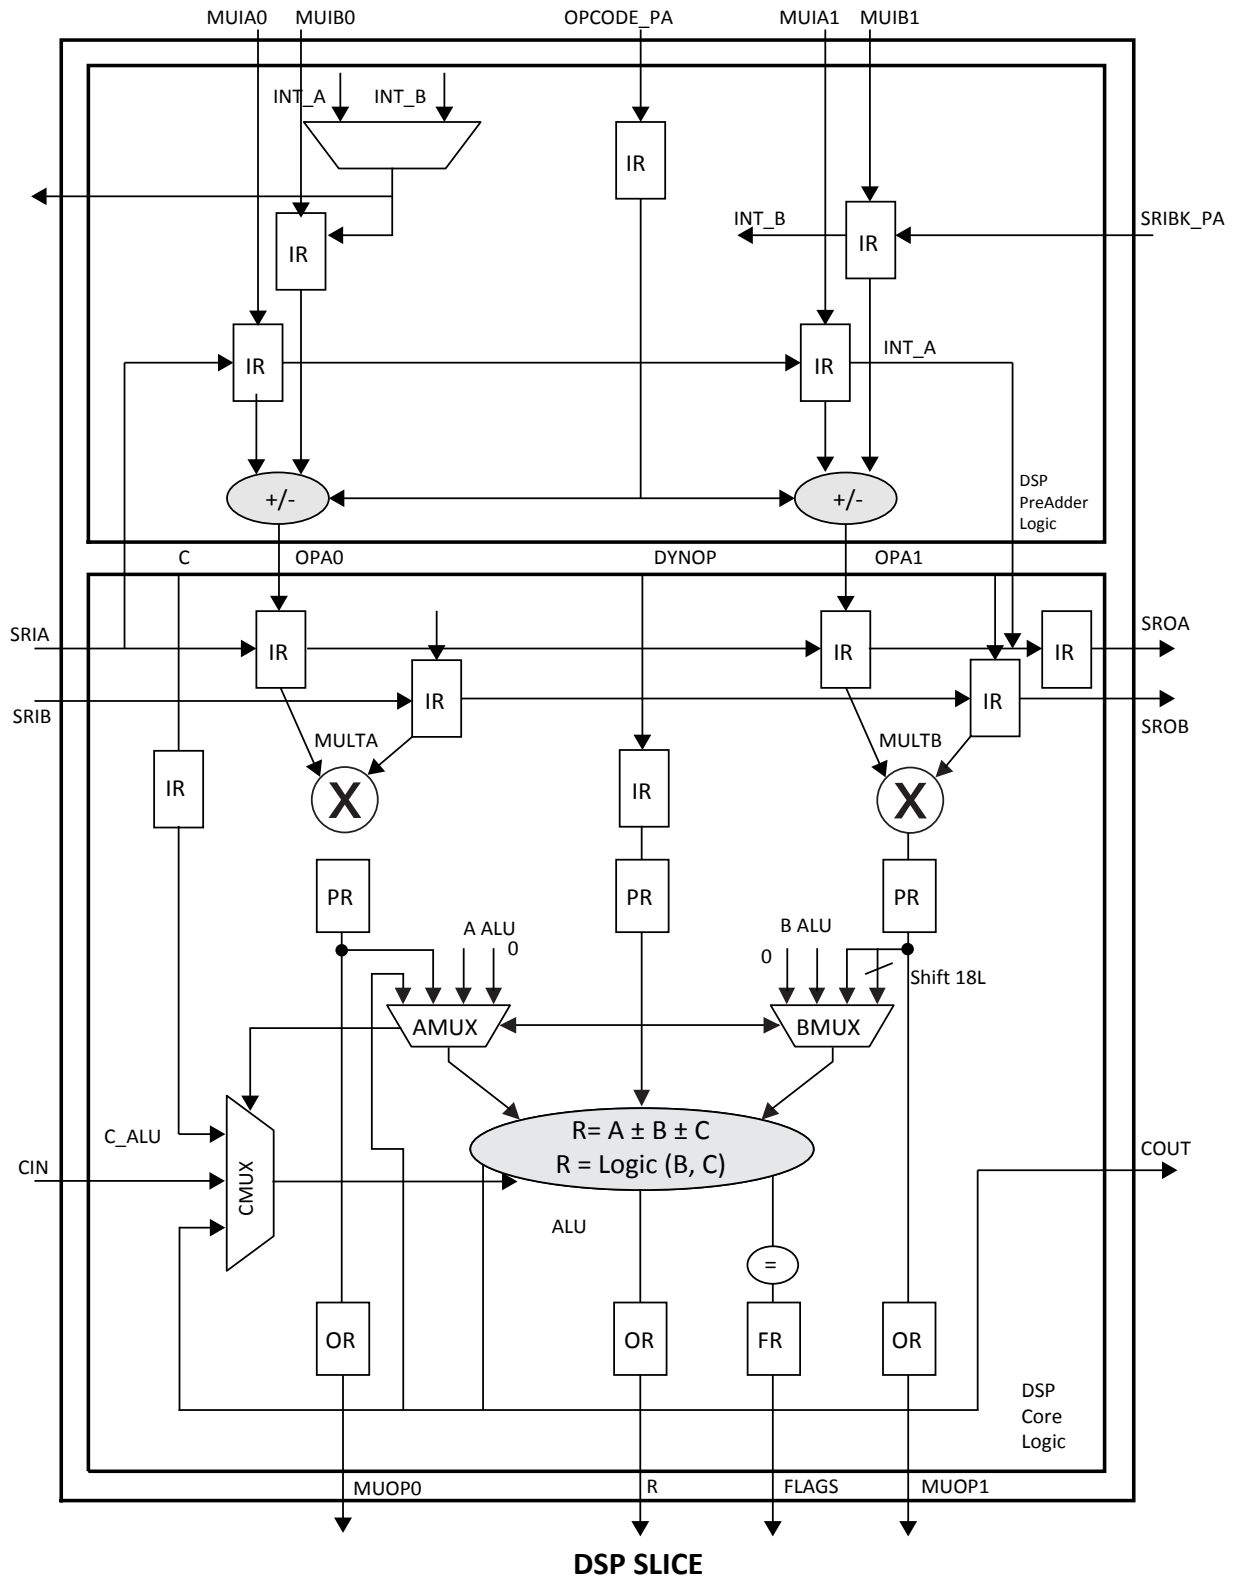

Figure 2.15. Detailed sysDSP Slice Diagram
- For most cases, as shown in Figure 2.14, the ECP5/ECP5-5G sysDSP slice is backwards-compatible with the LatticeECP2™ and LatticeECP3™ sysDSP block, such that, legacy applications can be targeted to the ECP5/ ECP5-5G sysDSP slice. Figure 2.14 shows the diagram of sysDSP, and Figure 2.15 shows the detailed diagram.
In Figure 2.15, note that A_ALU, B_ALU and C_ALU are internal signals generated by combining bits from AA, AB, BA BB and C inputs. For further information, refer to TN1267, ECP5 and ECP5-5G sysDSP Usage Guide.